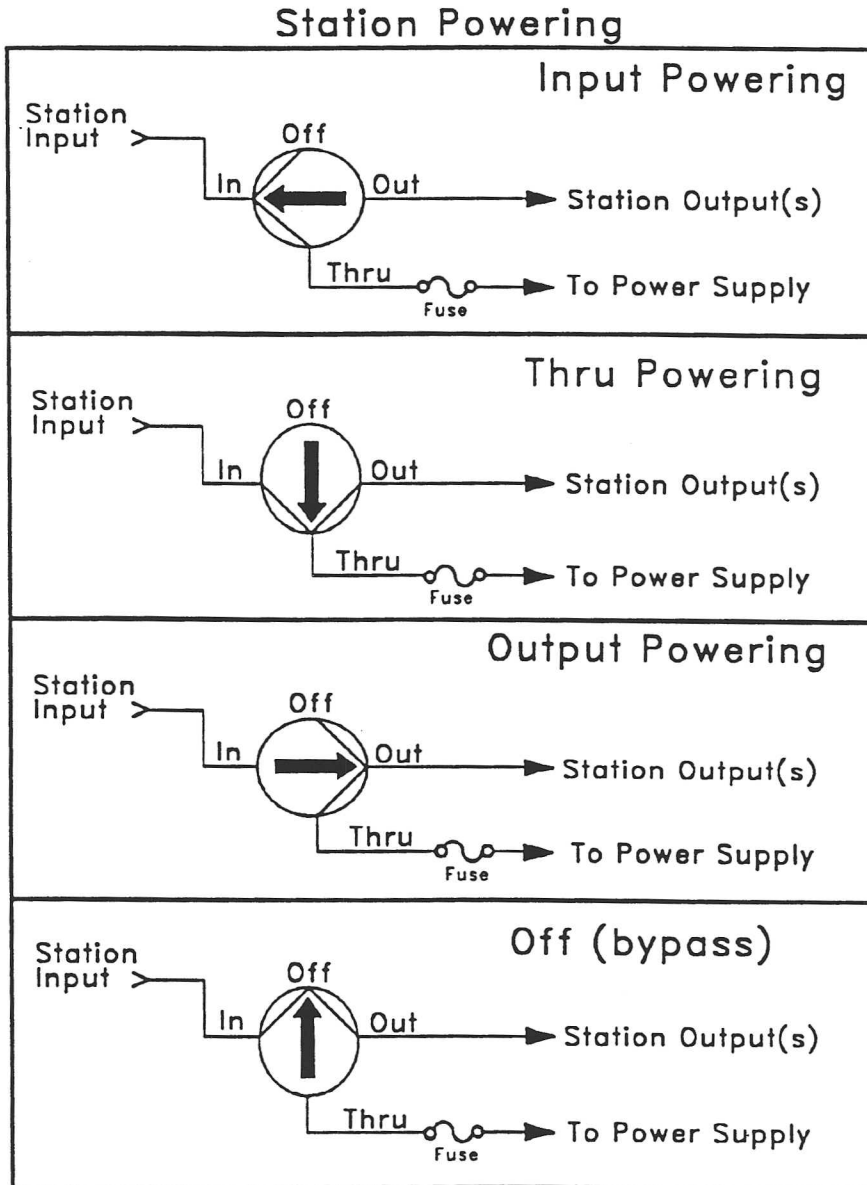

Figure 3.3.2 Station Powering
4. Verify that the Power Selector Plug is set for the desired mode of operation: IN, OUT, OFF, or THRU. Reference Figure 3.3.2. for an illustration of station powering.